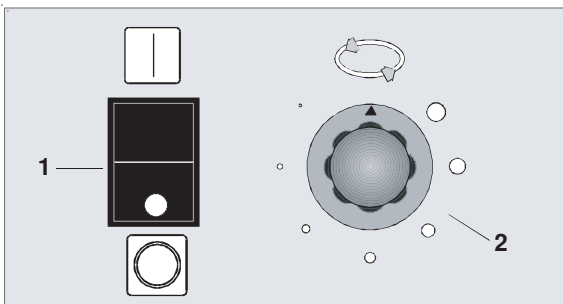

Fig.5
2. Switch on the machine by setting the main switch (1, fig. 5) to I.
- Set the main switch (1, fig. 5) to I.
To select the wanted temperature value, press either key 13 or 14 (see Fig. 5) according to whether you want to decrease or increase the temperature setting. To start a change in the temperature value, hold in the selected key for approx. two seconds. The temperature reading changes more quickly if the key is held in.